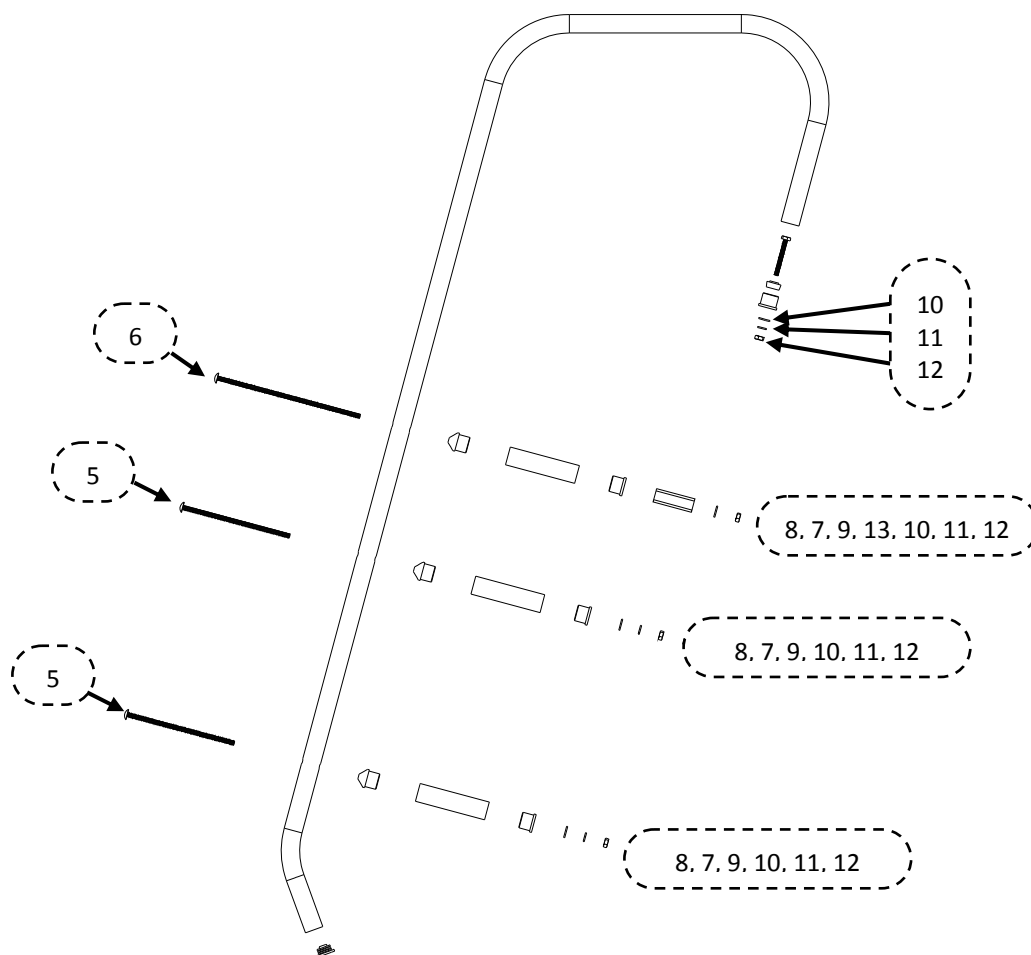
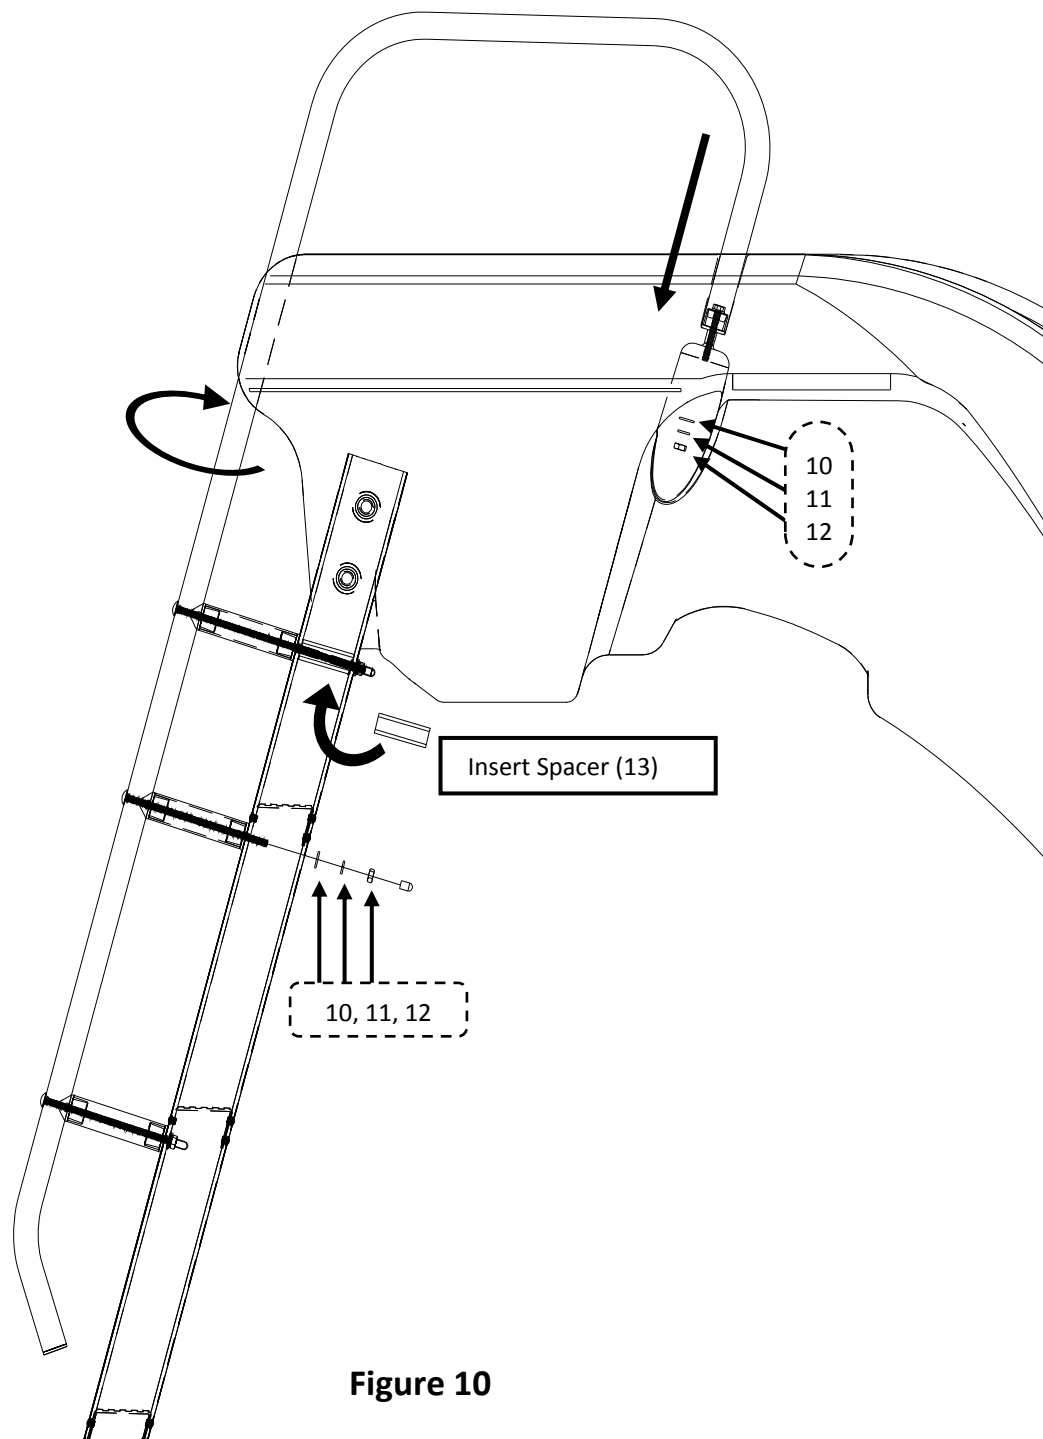

Figure 9
Figure 10
- 11) Disassemble each handrail as shown in Figure 9. Insert the two handrails into the holes on the top of the slide runway rails, and rotate so that the rails are resting in the grooves on the back side of the entrance section. Secure each handrail into the socket using a (#10) Flat Washer, a (#11) Lock Washer, and a (#12) Hex Nut.
- 12) Starting with the top handrail spacer, align the top hole in the handrail with the top hole in the ladder side rail. Next, assemble the handrail spacer parts (#7), (#8) and (#9) in the order shown in Figure 9 and align it between the handrail and ladder top holes. Next, insert the (#6) 1/4-20 x 8" Carriage Bolt through the handrail and the handrail spacer parts. The (#13) Ladder spacer is to be placed in the inside channel of the ladder side rail such that the (#6) Carriage Bolt holds it in place after it is pushed completely through the ladder side rail, see Figure 10. Secure the (#6) Carriage bolt using a (#10) Flat Washer, a (#11) Lock Washer, and a (#12) Hex Nut in the order shown in Figure 9 and 10.
- 13) For the remaining two ladder spacers, align parts (#7), (#8) and (#9) between the hole in the handrail and the hole in the ladder as in step 12. Use a (#5) 1/4-20 x 6" Carriage Bolt along with a (#10) Flat Washer, a (#11) Lock Washer, and a (#12) Hex Nut to fasten the parts together as shown in Figures 9 and 10.